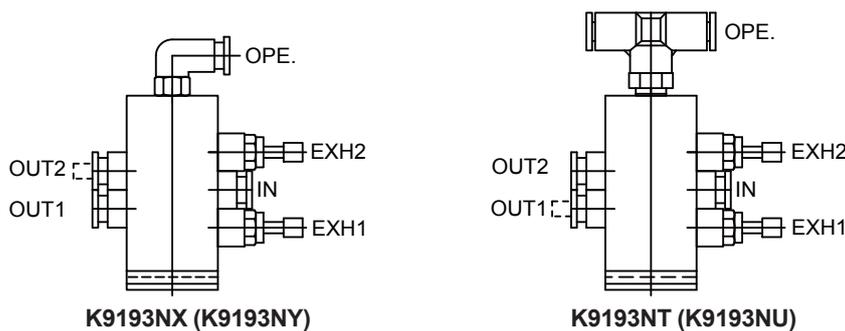

Figure 6.49 Pneumatic Valve for Actuating External Air Supply
See Figure 6.49 for the replacement procedure.
- (3) Turn off the supply of the purging air. Remove the tubes connected to ports IN, OUT1, OUT2, and OPEN. When removing the tubes, put labels on them for ease of identifying the connections later (see Figure 6.49 and Figure 6.50).
- (4) Remove the two screws.
- (5) Install a new pneumatic valve for actuating the external air supply in the reverse order of steps (3) and (4).
- (6) Confirming that the piping is correct and there are no leaks.
- (7) After completing the piping, follow the steps below.
- (b) Feed air and make sure that air comes out from point (1) but not from point (2).
- (c) Actuate valve SV11 and make sure that air comes out from (2) but not from (1).
- (d) Repeat steps (b) and (c) and confirm that the reaction times at (1) and (2) do not take more than 0.5 seconds, with respect to the actuation of SV11.
- (e) If the reaction time at (1) was more than 0.5 seconds as a result of step (d), open the EHX1 needle valve by 1/4 turns and check the delay again. If the reexamination still shows the same result, repeat this step.
- (f) If the reaction time at (2) was more than 0.5 seconds as a result of step (d), open the EHX2 needle valves by 1/4 turns and check the delay again. If the reexamination still shows the same result, repeat this step.